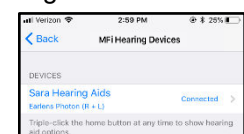

Figure 43
7. When the hearing aids are paired and connected, you will see the word "Connected" in the main MFi Hearing Devices screen (Figure 43).